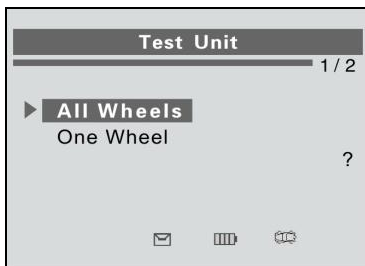

Figure 2.13
- 2) From **Test Unit** menu, use the **UP/DOWN SCROLL** button to select **All Wheels** or **One Wheel** to test TPM sensors. (Figure 2.13)